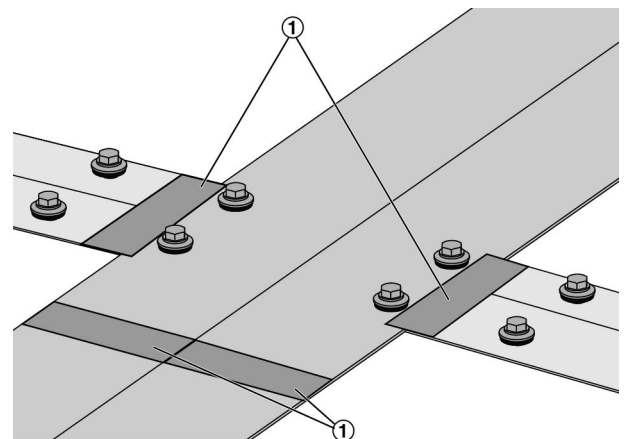

Fig. 21: Sealing the joints
2. ▶ Seal the joints ( Fig. 21 /1) between the cover strips with the supplied adhesive strips (100 x 40 mm).